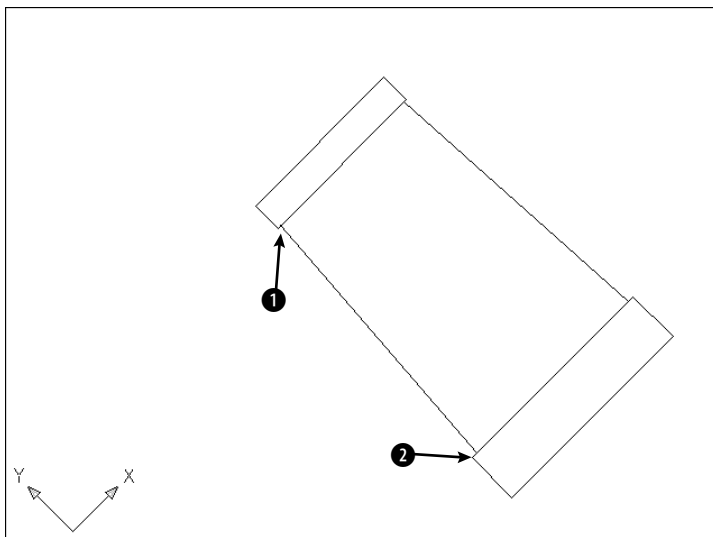

Figure 8-23: The completed framework for the bearing housing.
8. Start the LINE command. At the Specify first point: prompt, choose the From object snap. At the Base point: prompt, use the endpoint object snap to pick ① in Figure 8-23. At the <Offset>: prompt, type @1/16,0 ↵.
- 9. At the Specify next point or [Undo]: prompt, again choose From. At the Base point: prompt, use the endpoint object snap to pick ②. At the <Offset>: prompt, type @1/8,0 ↵ to complete the model, as shown in Figure 8-23. End the LINE command.**